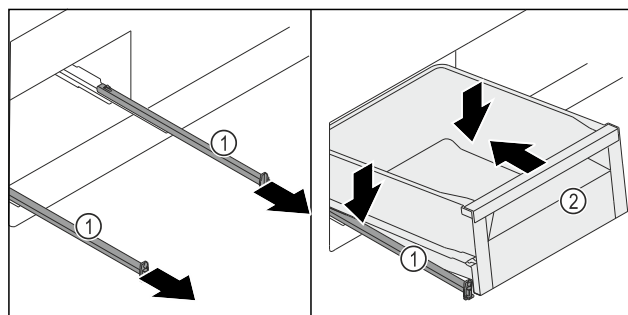

Fig. 125
- ▶ Pull out the rails *Fig. 125 (1)*.
- ▶ Hold the rails *Fig. 125 (1)* firmly and place the drawer *Fig. 125 (2)* diagonally from above onto the rails *Fig. 125 (1)*.
- ▶ Push the drawer *Fig. 125 (2)* on the rails *Fig. 125 (1)* to the back as far as it will go.